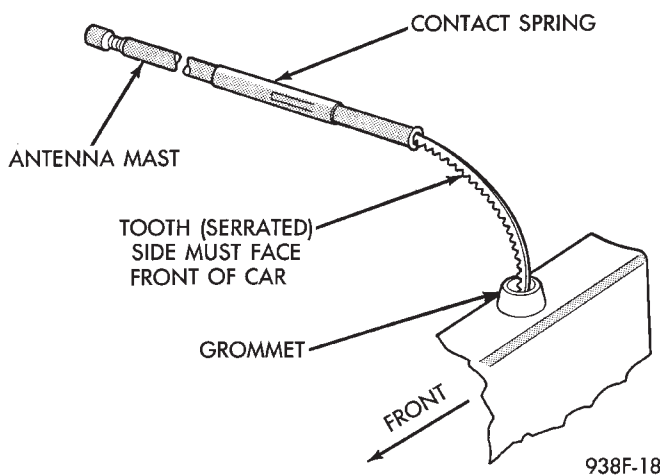

Fig. 10 Power Mast Replacement
(1) Insert new drive rod into mast tube with drive teeth toward antenna motor (Fig. 10).